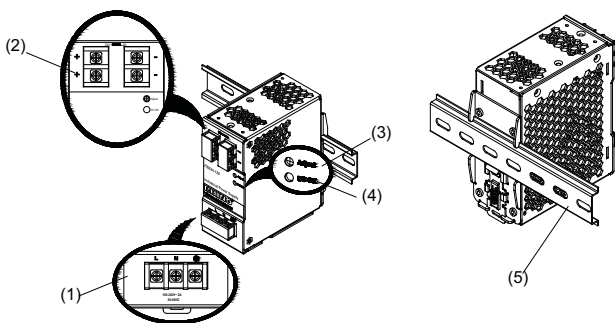
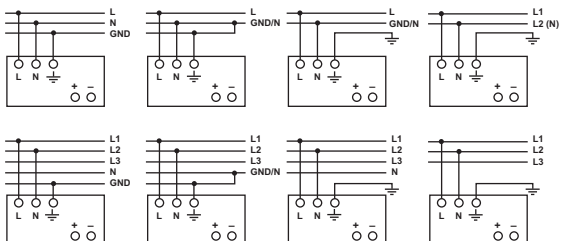

Figure 1
Figure 5
2. Device description (Fig. 1)
5.1. Input connection (Fig. 1, Fig. 5)
Use L, N and GND connections of input terminal connector (see Fig. 1 (1)) to establish the 100-240 VAC connection.
5.2. Output connection (Fig. 1 (2))
The green LED DC OK displays correct function of the output (Fig. 1 (4)).